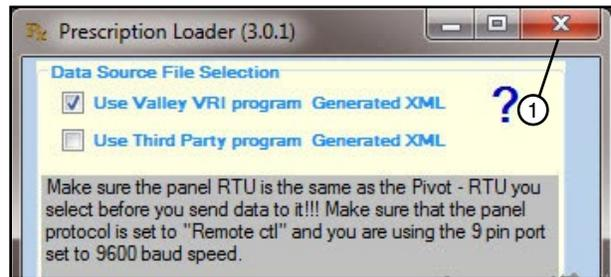

Figure 42-2 1. Close Button
11. Click the **Close** button on the Prescription Loader screen to exit the Prescription Loader application. See Figure 42-2.